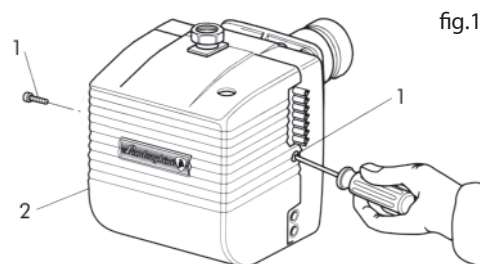

fig.1
To gain access to the main components, remove the cover, as shown in (Fig.1).
- Close the gas cock and disconnect the gas train. Unscrew the screws 1 and remove the cover 2 (fig.1).